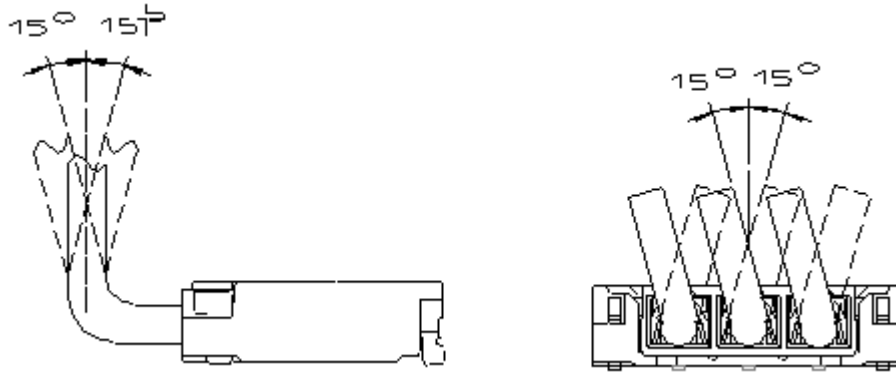

FIG. 5
3.2.1 For unmating process, plug wires pull and stress angle must be maintained within 15° as per fig.5 shown.